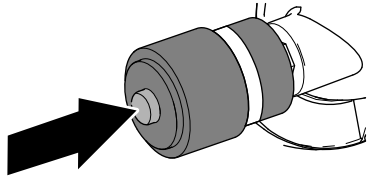

Figure 80
1. If a red band displays in the service indicator, press the reset button at the end of the indicator (Figure 80).